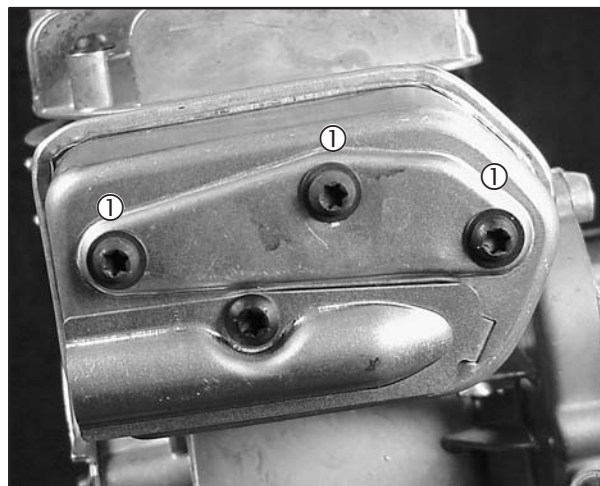

Fig. 30
1. Remove the top 3 muffler bolts (1), Fig. 30. Remove muffler. Discard gasket.